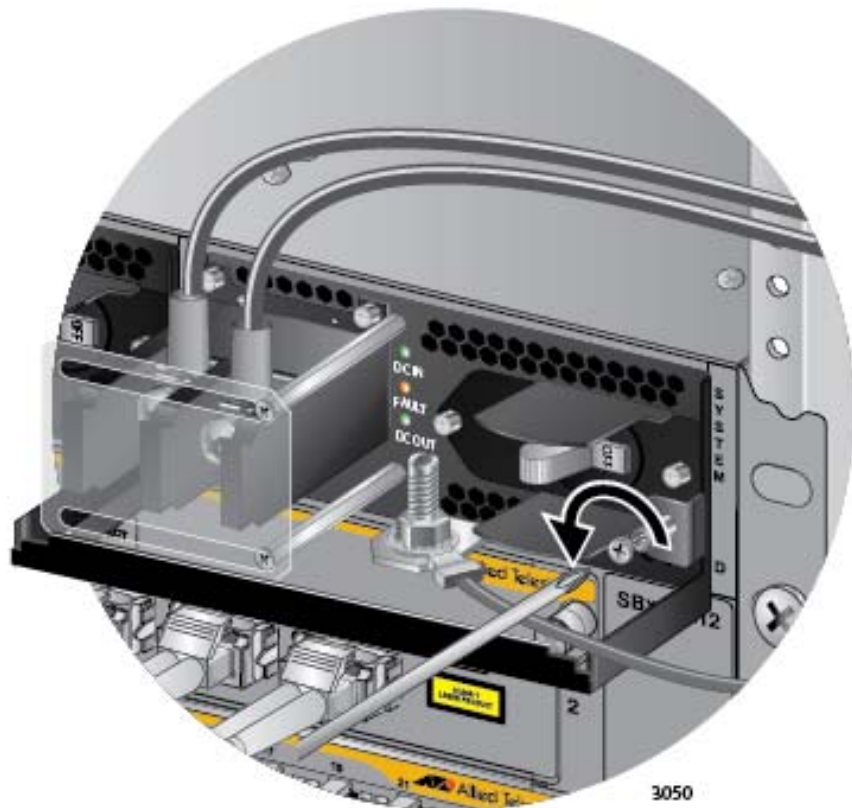

Figure 134. Loosening the Screw on the Locking Handle
3. Use a #2 screwdriver to loosen the screw on the locking handle. Refer to Figure 134.